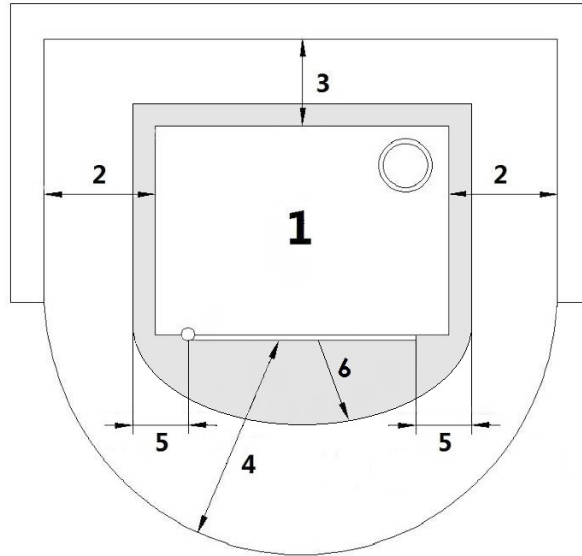

Fig. 13 - General installation
LEGEND	Fig. 13 page 14
- It is obligatory to install the stove away from walls and/or pieces of furniture, with a minimum air flow of 350 mm on the sides and 400 mm on the back, to enable an efficient appliance cooling and a good distribution of heat in the room (see **Fig. 13 page 14**).
- For safety fire regulations the distances from flammable or sensible to heat objects (sofas, pieces of furniture, wooden covering, etc...) must be respected, as described in **Fig. 13 page 14**.
- If the walls are made up of flammable materials, check the safety distances (see **Fig. 13 page 14**).